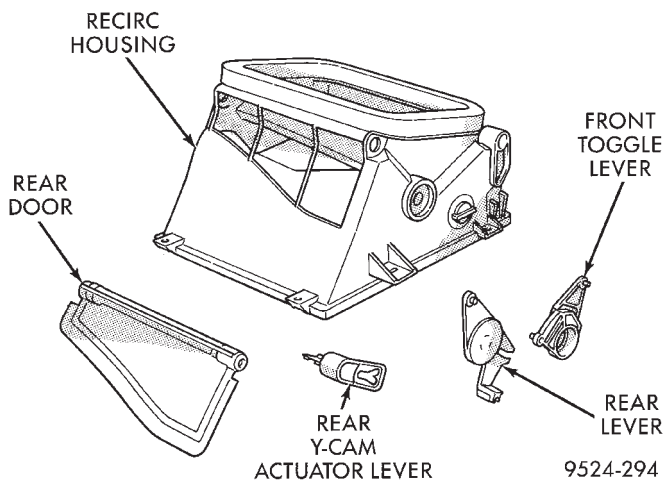

Fig. 81 Rear Air Inlet Door
- (10) Unsnap and remove rear air inlet door (Fig. 81).
- (11) Front air inlet door and lever is serviced with recirculation housing.